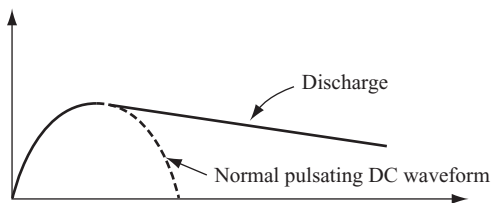

FIGURE 11.37
**18** If no further pulses pass through the diode, the voltage level drops as the capacitor discharges, resulting in the waveform shown in Figure 11.37.